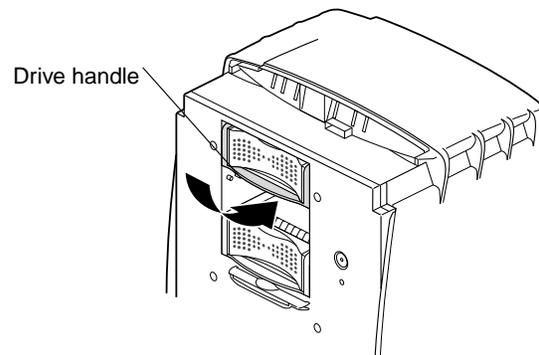

Figure 7-8 Locking the Secondary (Option) Drive
3. With the drive completely inserted, rotate the handle downward to lock the drive in the workstation, as shown in Figure 7-8.